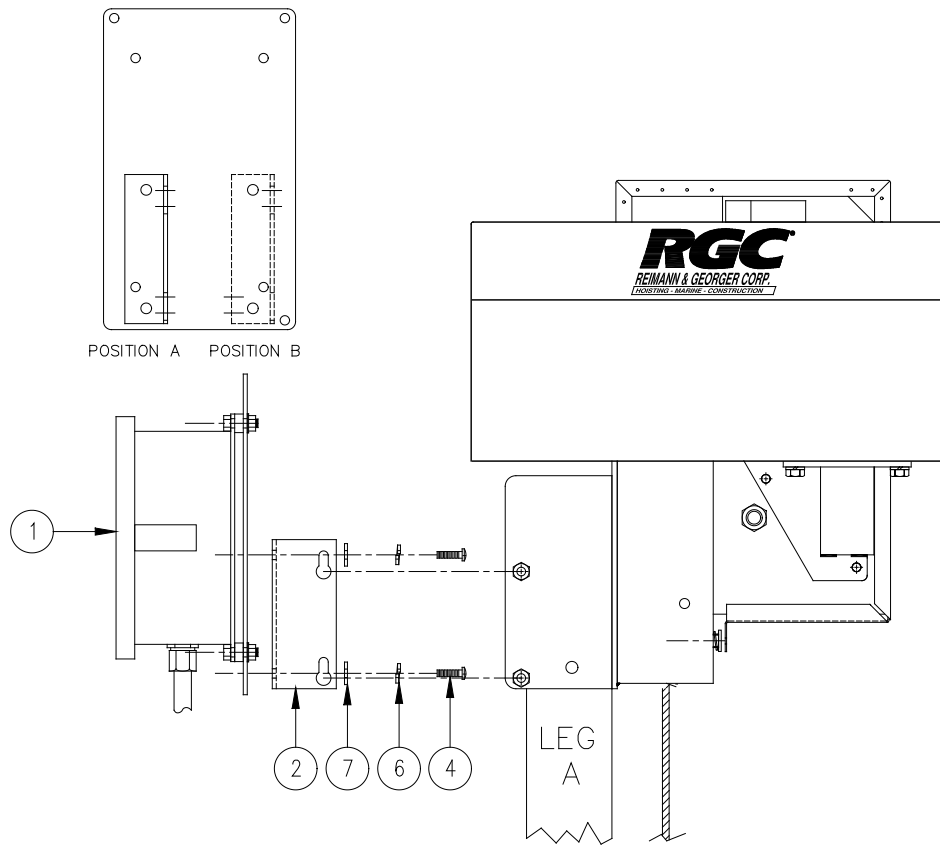

Figure 2-6
2. Refer to Figure 2-6. Mount the RC control box onto the winch bracket using universal mounting bracket (detail 2).